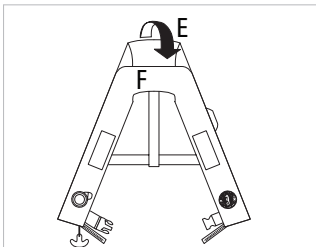
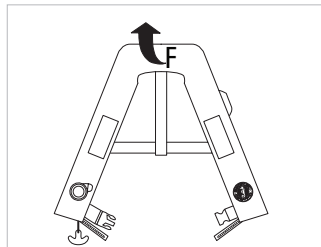

FIGURE 23 FOLD TOP
FIGURE 24 FOLD COVER
5. Fold over the top side (E) (Fig. 23) and cover (F) (Fig. 24).